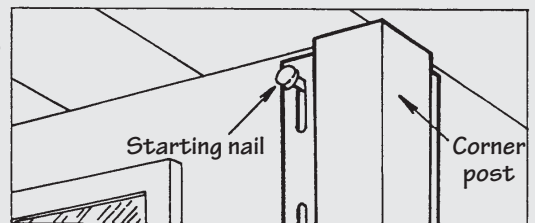

Figure 19.
- Space the fasteners a maximum of 16" (406mm) apart for the horizontal siding panels, every 12" (305mm) for the vertical siding panels, and every 8" to 12" (203mm to 305mm) for the accessories. These distances may be increased if the manufacturer permits greater spacing based on windload testing. Start fastening vertical siding and corner posts in the top of the uppermost slots to hold them in position. Place all other fasteners in the center of the slots (Fig. 19).